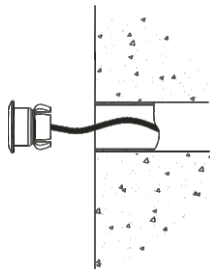
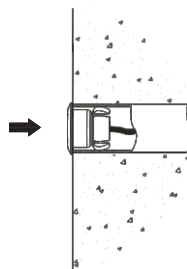

Figure 4
Figure 5
- 6) When installing underwater lights, Please refer to Figure 4 and Figure 5 of the lamp into the PVC pipe.